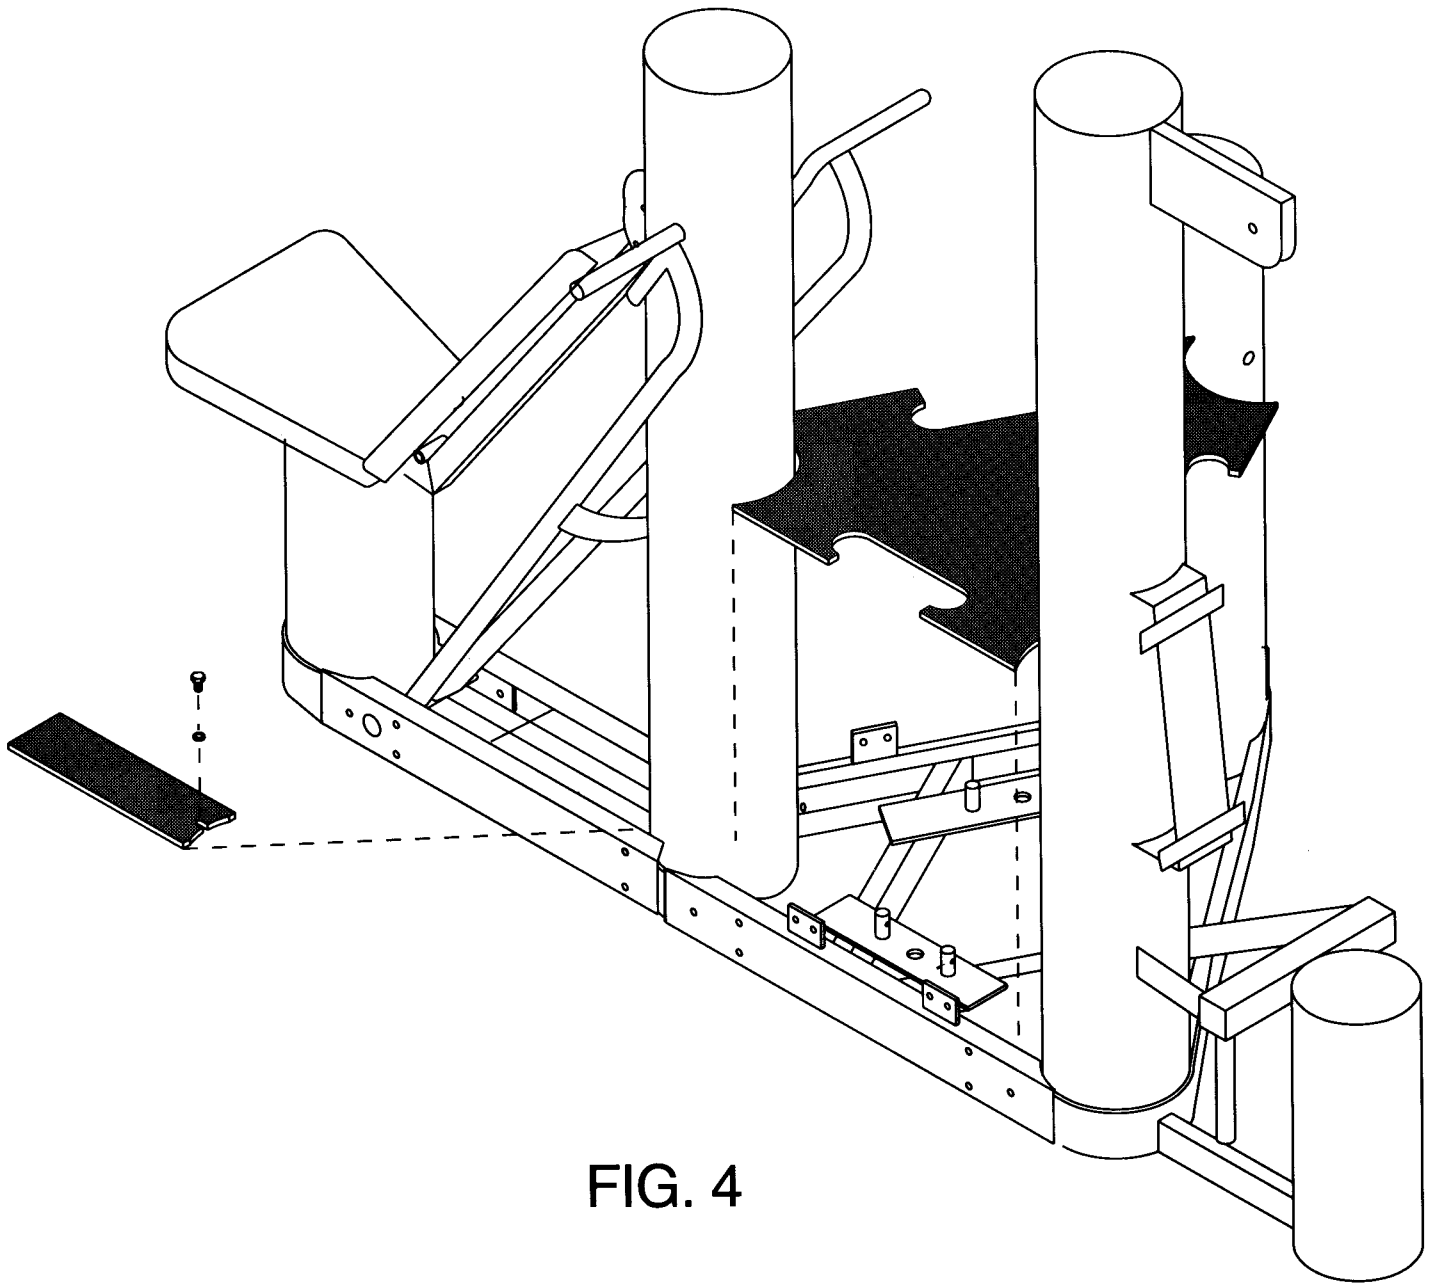

FIG. 4
8. Install the triangular floor piece and the smaller rectangular piece (3/8-16 x 3/4 hex screw, washer, Qty: 1 ea.) (Fig. 4)